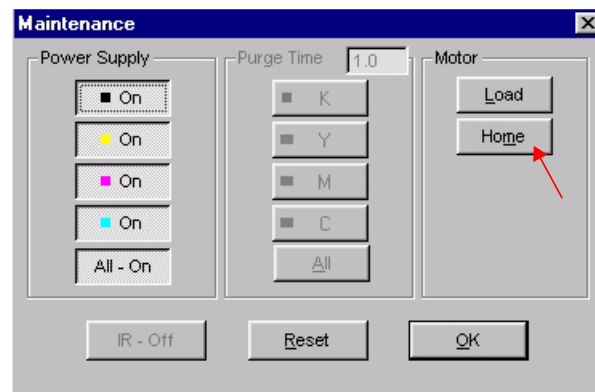

Figure 6. **Maintenance Dialog Box**
7. Under the *Motor* column (on the right), click on the **Home** button (see Figure 6).